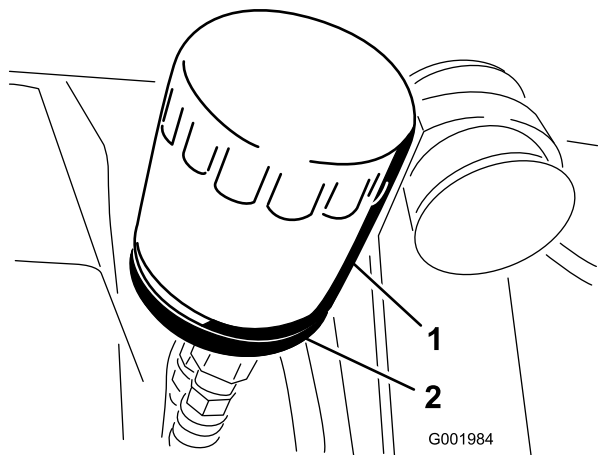

Figure 51
2. Remove the oil filter (Figure 51).
5. Install the replacement oil filter to the filter adapter. Turn the oil filter clockwise until the rubber gasket contacts the filter adapter, then tighten the filter an additional 1/2 turn (Figure 51).